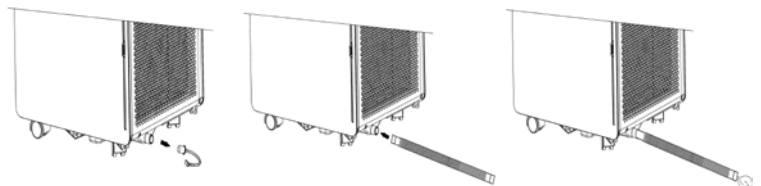

Fig. 6
3. As shown in Fig.6, connect drain hose well (only for using heating model);